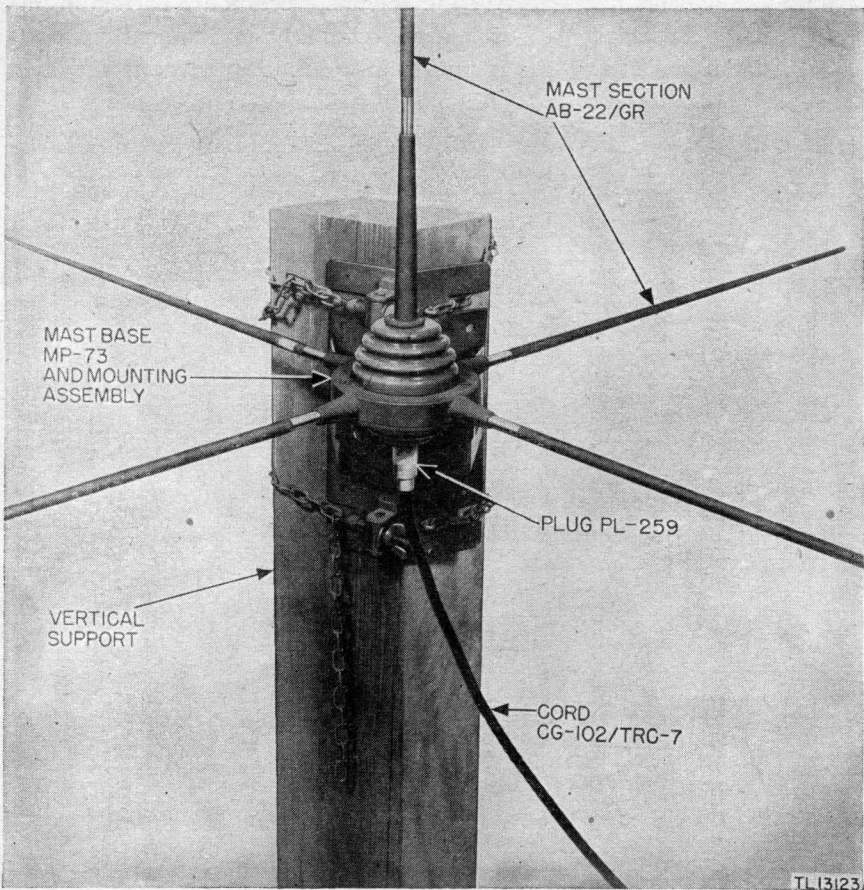

Figure 34. Antenna Equipment RC-291(-), showing Mast Base MP-73 and mounting assembly, installed on support.
**a. LOCATION OF ANTENNA.** Select a tree at the edge of a wooded area, or else erect a pole in a clear area. The tree or pole should be 2-or more inches in diameter and should be able to support easily the weight of the equipment to be mounted on it. If a tree is used, it should be topped before installing the antenna (fig. 34).
(5) *Assembling mast sections.* Assemble one set of mast sections by screwing Mast Section AB-24/GR into Mast Section AB-23/GR, and this into Mast Section AB-22/GR. Assemble four more sets in similar fashion. Haul the five sets of mast sections to the top of the support and screw them into the five female inserts that project from the sides and top of the mast base (fig. 34).